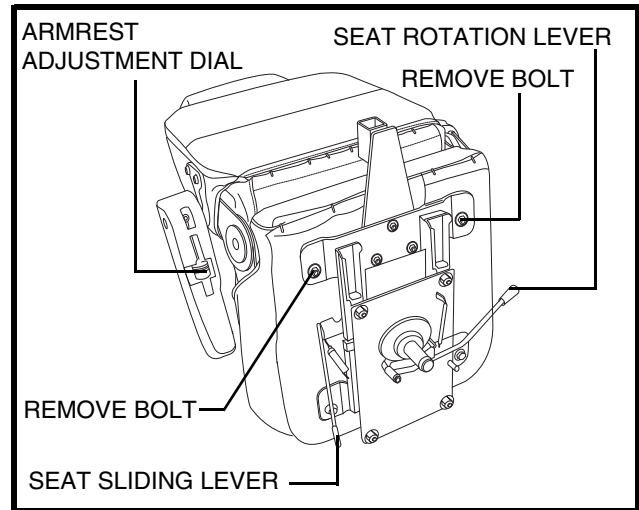

Figure 21. Seat Position Adjustments
1. Push forward on the seat rotation lever to disengage the seat. **See figure 21.**
1. Move the seat sliding lever located at the lower left side of the seat outward. **See figure 21.**
There is an armrest adjustment dial on the underside of each armrest. **See figure 21.**
2. Place the seat upside down so that you can see the bottom of the seat base. **See figure 21.**